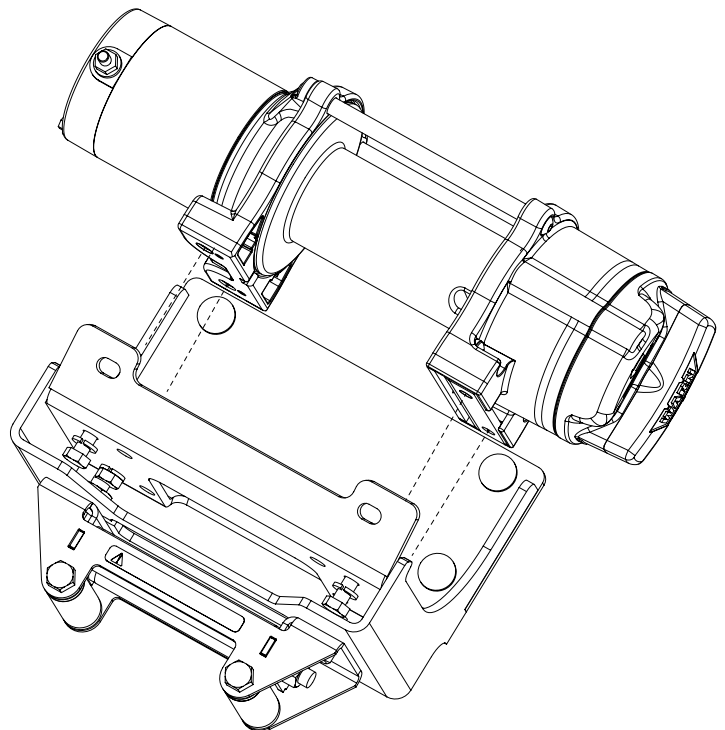

Figure 3
5. Install winch to mount (A1) . See figure 3.